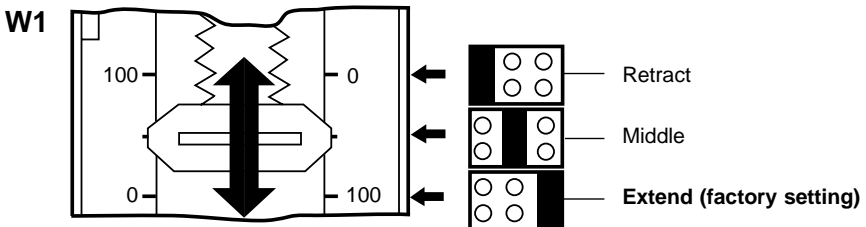

Fig. 35
4.2.1 Setting the W1 jumper switch (signal failure position, Fig. 35)